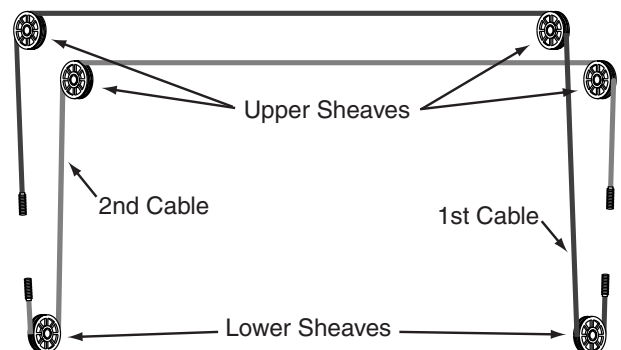
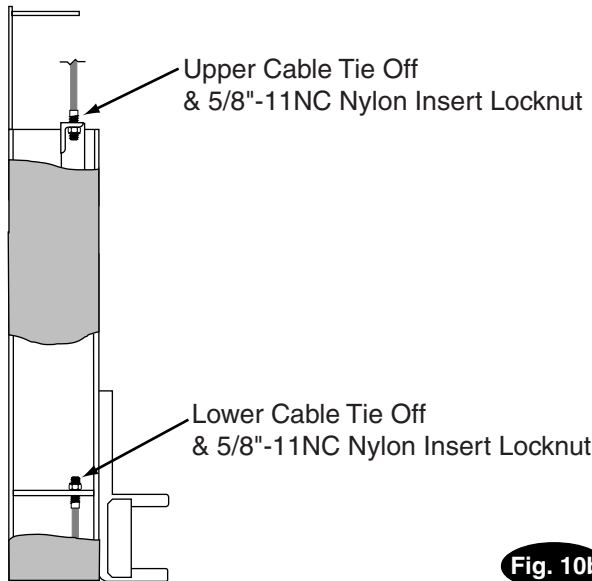

Fig. 10a
Fig. 10b
- Refer to Fig. 10a for the general cable arrangement. First, run a cable end up through the small hole in the lower tie-off plate. Fig. 10b.
- Pull the cable back down. Fig. 10b
- Run cable around the lower sheave, then up and around overhead sheave and across and down to the opposite carriage. Fig. 10a.